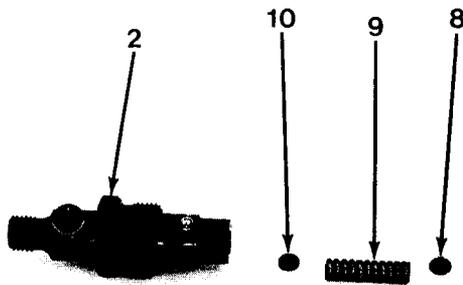

Figure 7-5
5. Remove injector nozzle (2, Figure 7-5) from vise.
6. Turn injector nozzle (2) upside down and remove pressure spindle (8), pressure spring (9) and shims (10).